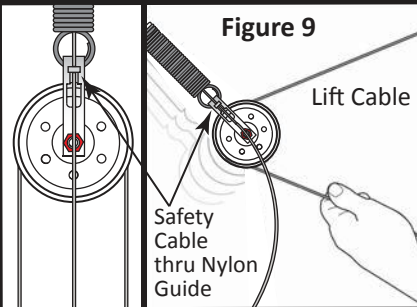

Figure 9
**Step 9:** Run the Lifting Cable back to the Pulley attached to the spring and loop the cable over the top, going through the Sheave (Fig 9).
**Step 6:** Attach the other end of the Extension Spring(s) to the right side Eye bolt (Figure 9).
**Step 10:** Run the Lifting Cable back to the Pulley attached to the spring and loop the cable under the pulley, going through the Sheave (Figure 9).